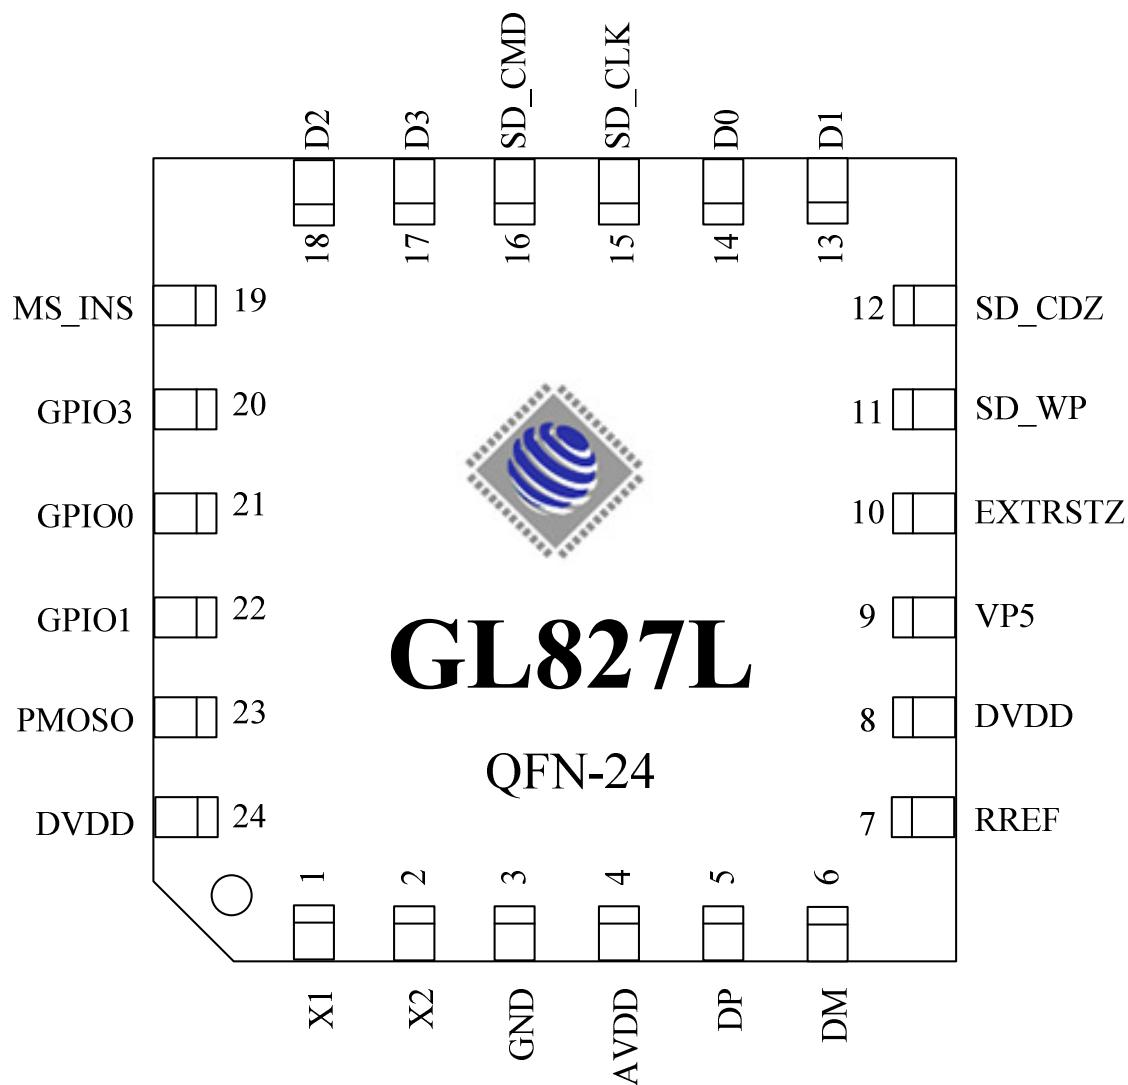

Figure 3.2 – (A) 24 Pin QFN Pinout Diagram
| FIGURE 3.2 – (A) 24 PIN QFN PINOUT DIAGRAM..... | 9 |